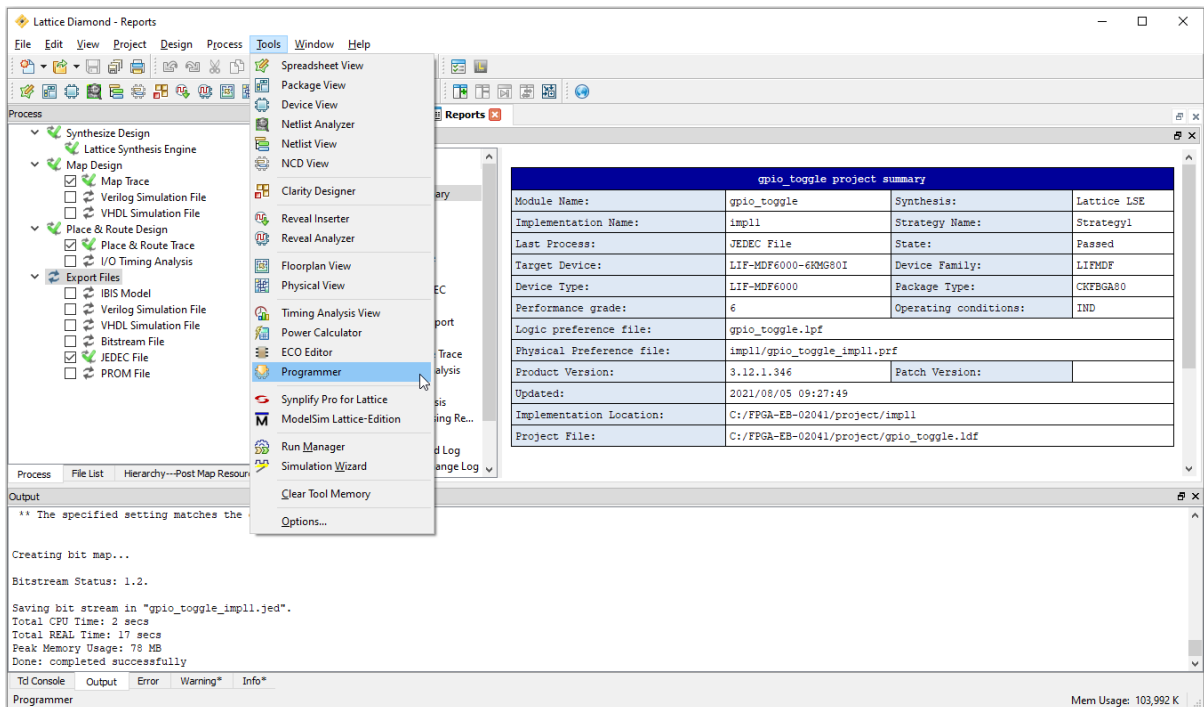

Figure 5.1. Diamond Software – Diamond Programmer
2. In Diamond Software, click **Tools > Programmer**, as shown in Figure 5.1.